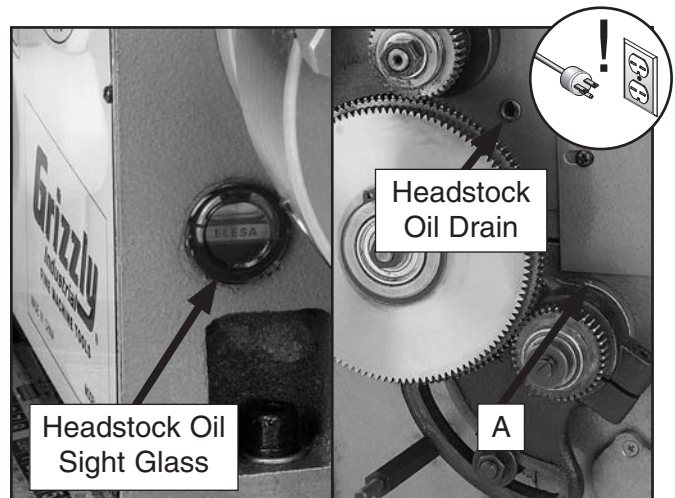

Figure 77. Headstock oil sight and drain.
The headstock and apron use SAE 20W/ISO 68 non-detergent gear oil or equivalent lubricant. Keep the oil level at the indicator mark in the headstock and apron sight glasses (**Figures 77 & 78**). After three months of use, drain the oil and refill. After the initial oil change, change the headstock oil on an annual basis or more frequently if machine is used daily.
- A. Gearbox Input Shaft:** Remove the end access panel and oil the gearbox input shaft (see **Figure 77**).